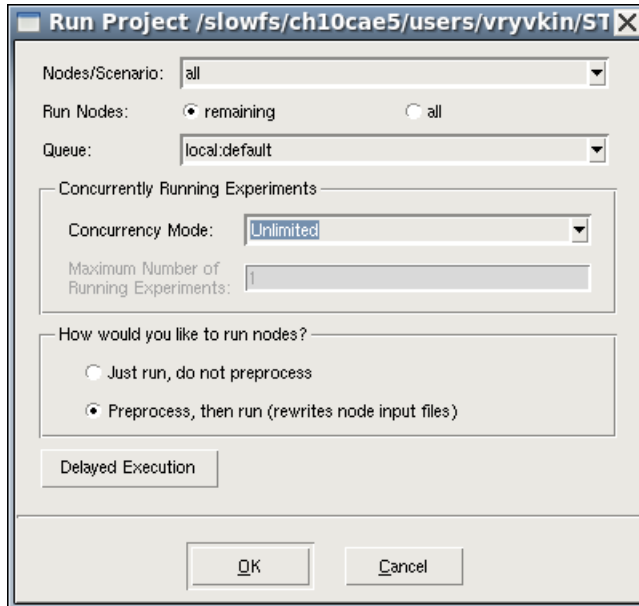

Figure 67 Run Project dialog box for a project in Editable mode
In contrast to projects in Locked mode, a running project in Editable mode is not locked for changes. You can add or remove tools, parameters, and experiments, and edit tool input files and Sentaurus Workbench configuration files, and so on. In addition, you can edit node input files and rerun them without the obligatory preprocessing and node file regeneration. To do this, select the **Just run, do not preprocess** option in the Run Project dialog box (see Figure 67 on page 149).
- **Unlimited:** Default. Sentaurus Workbench uses the standard job-scheduling approach. In general, all project experiments run simultaneously, and you observe a stepwise execution order (see Figure 67 on page 149).